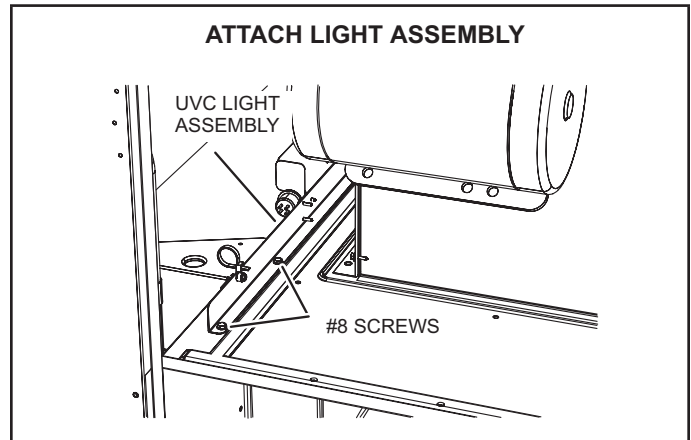

FIGURE 47
- 8 - Carefully place the UVC assembly on the blower deck. Line up the mounting holes on the UVC assembly with the mounting holes on the blower deck. See FIGURE 47. Use the #10 screws provided to attach the UVC assembly in place.